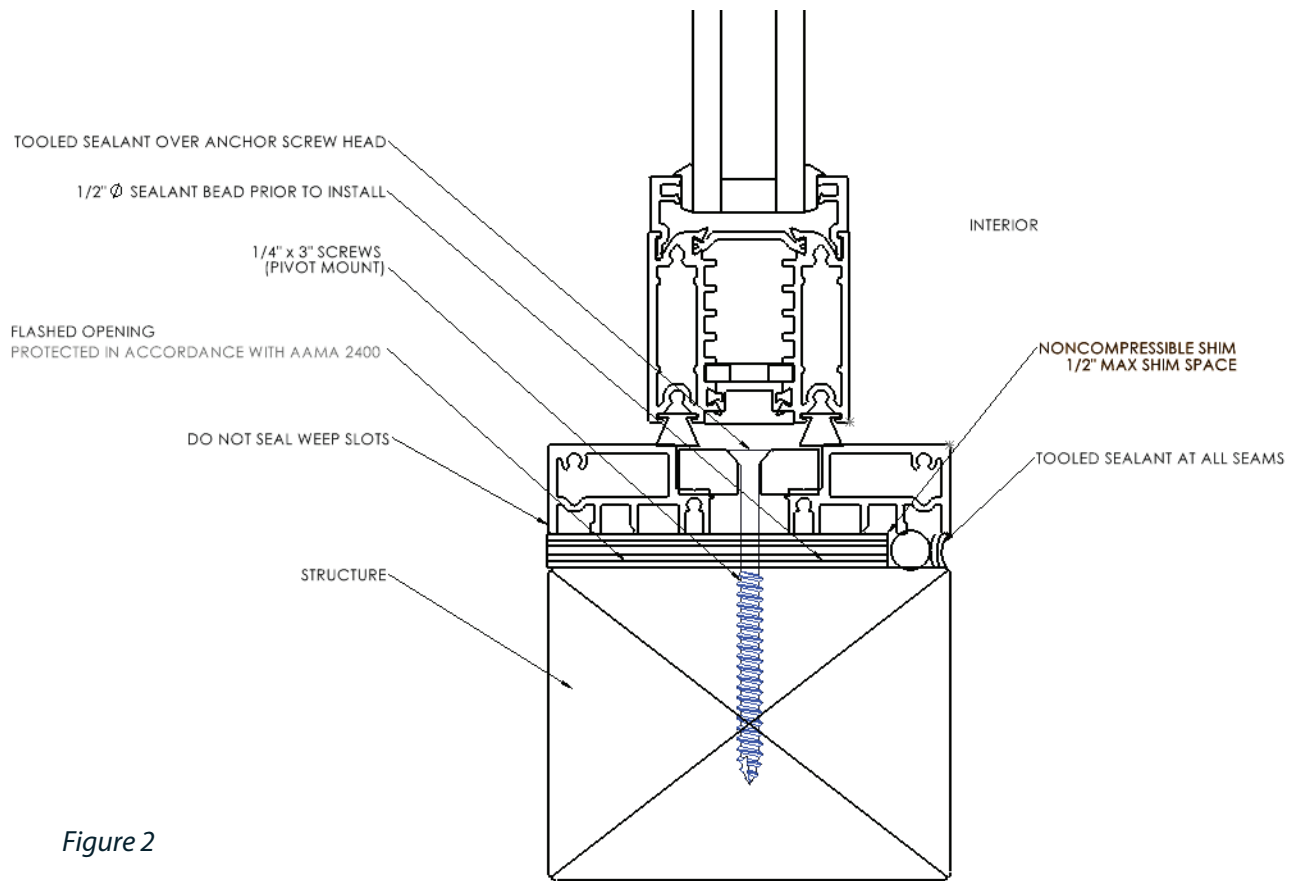

Figure 2
2. Apply a 3/8" continuous bead of sealant to the interior face of the nail-fin full perimeter. See Figure 2.